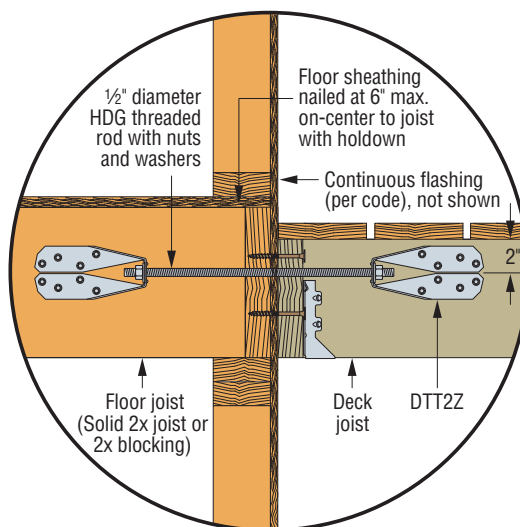

Figure 1
- Where the lateral-load connection is permitted to be installed per Figure 1, hold-down tension devices shall be installed in not less than two locations per deck, within 24 inches of each end of the deck, and have an allowable stress design capacity not less than 1,500 lb.